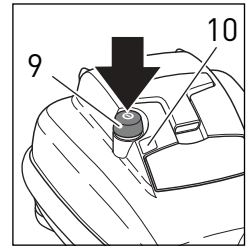

Figure 2 - K3
The "bag full or clog" light (#10, figure 2) works correctly only at full power. At lower power levels, the "bag full or clog" light may illuminate incorrectly. Check the status of the filter bag regularly at full power. If the light remains illuminated at full power, and the filter bag is not full, check for clogs (see page 10).
3. Press the main power control knob (9) on the base of the canister gently with your foot or hand. The green light (10) will illuminate indicating that the power is on (figure 2).